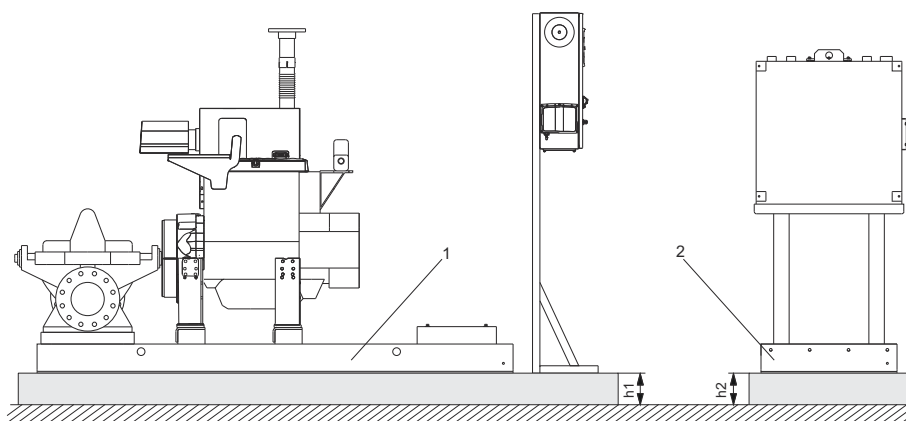

Fig. 20 Example, correct installation of fuel tank.
Placing the pump set (1) and fuel tank (2) at the same level ensures gravity supported feeding of fuel to the high pressure fuel pump at the engine. See fig. 20.